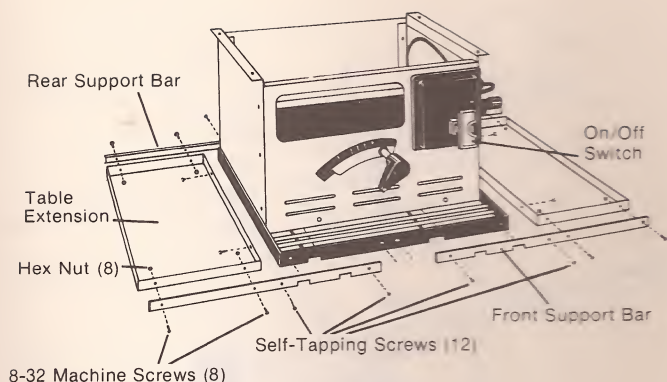

Figure 2
I. **INSTALLATION OF TABLE EXTENSIONS (Figure 2)** shows the operations you will be performing in this section. (Familiarize yourself with figure 2 before you begin.)